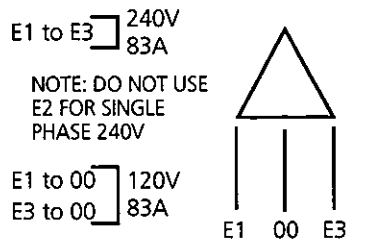

Figure 18 — Connections for 120/240 Volts, 1-Phase
4. Figure 18 shows the wiring connections at the generator's a-c output leads for 120/240 volts, 1-phase power supply.